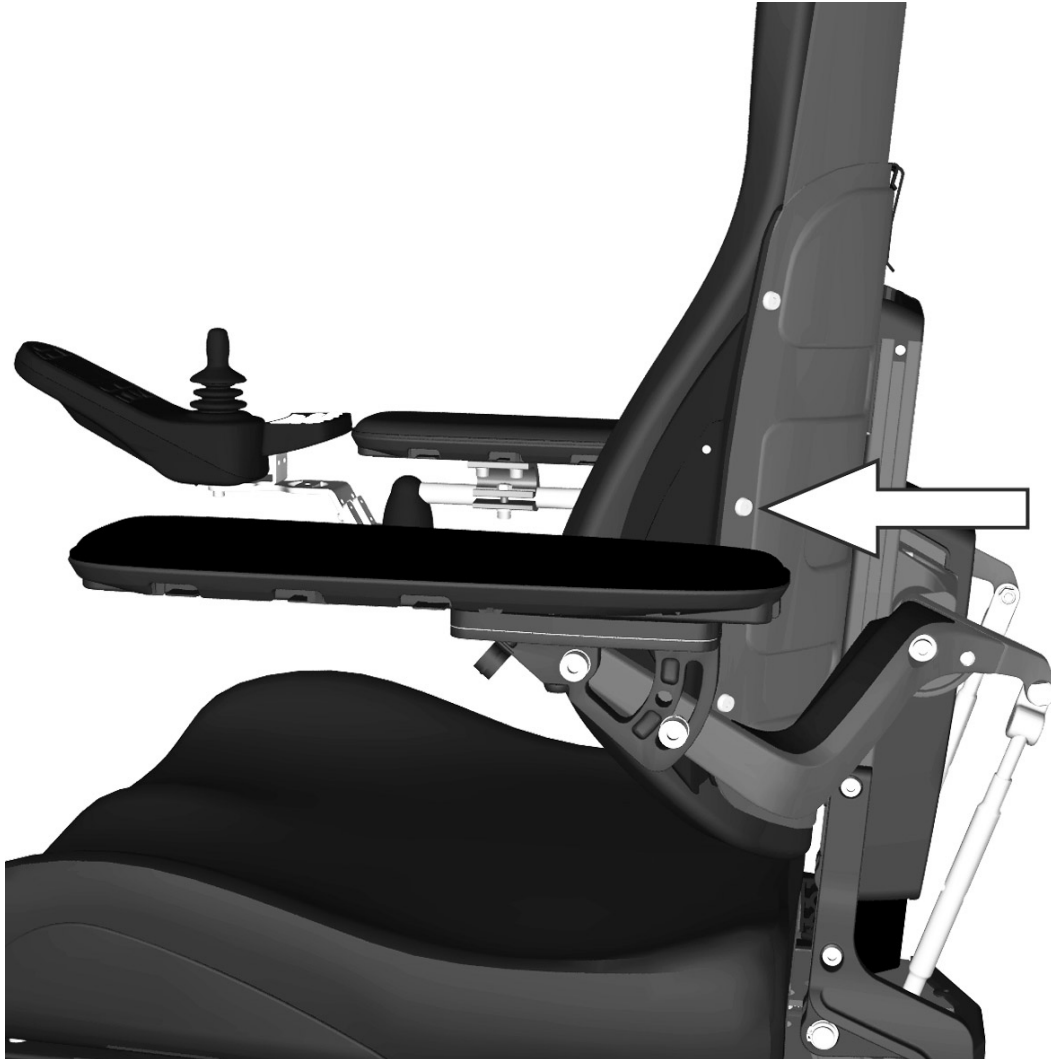

Figure 259. The trunk support height is fixed using one screw.
1. Loosen the screw for trunk support height adjustment approximately 2 turns. See fig. 259.